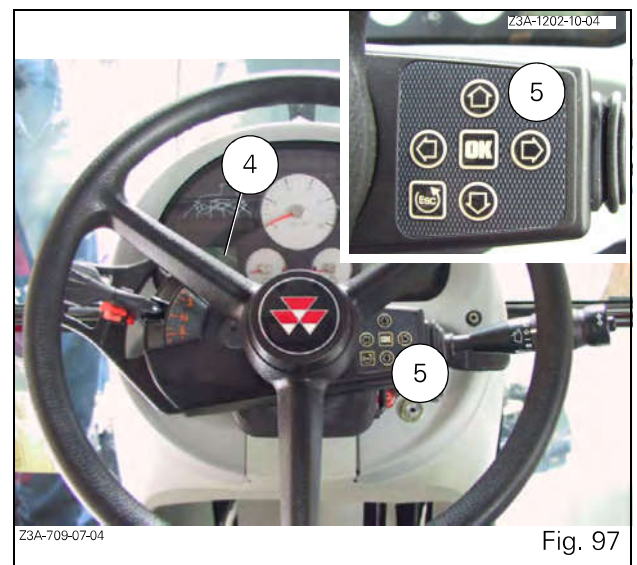

Fig. 97
The DOT MATRIX screen, located on the left of the instrument panel initialises when the tractor is started (4 Fig. 97). To access the different menus, press the DOT MATRIX control buttons (5) and follow the instructions given in the table on the next page.
Ref. 4: DOT MATRIX screen (Fig. 97)